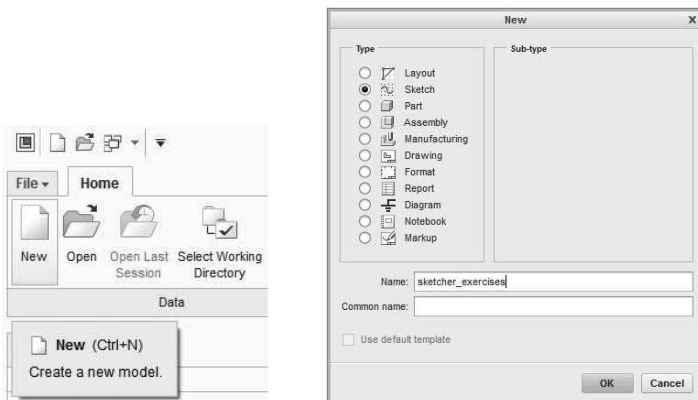

Figure 3-17 New Sketcher File
Step 3: Create a new sketch, named “sketcher_exercises.” See Figure 3-17.